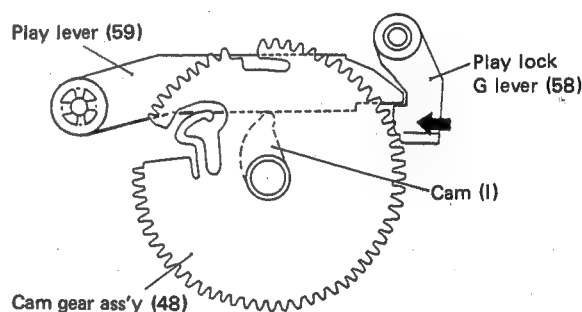

Fig. 13
- 8) When the cam (1) on the cam gear ass'y (48) lifts the play lever (59) to the highest position, the play lever (59) is locked by the play lock G lever (58), as seen in Fig. 13.
- 13) When the cam (1) of the cam gear ass'y (48) has lifted the play lever (59) to the highest position, the play lock G lever (58) locks the play lever (59). (See Fig. 13.)